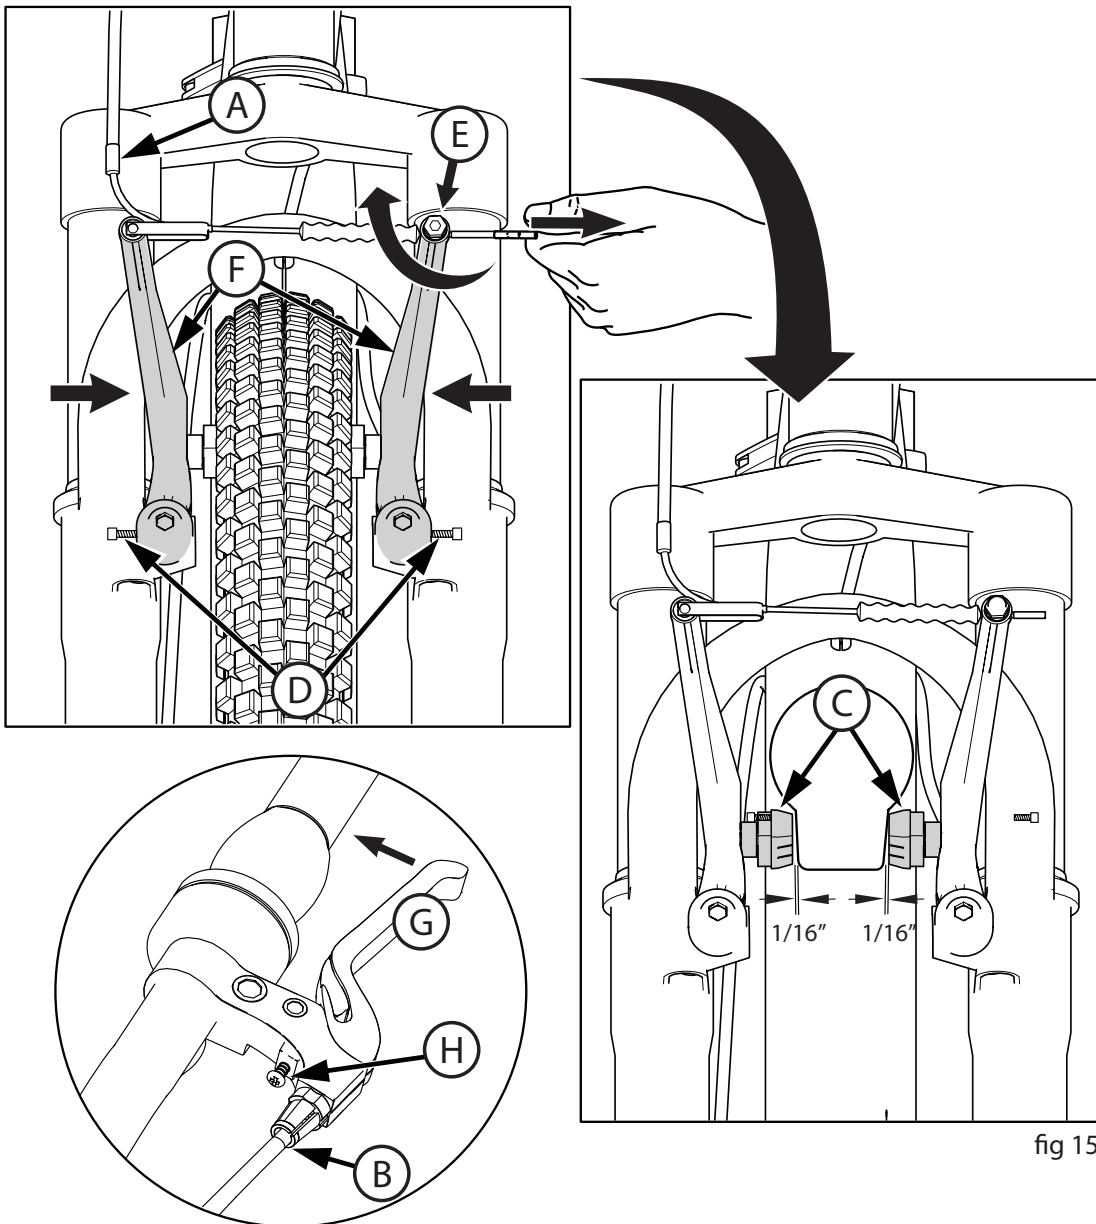

fig 15
8. Repeat these steps until the brake shoes are 1/16 inch from the rim and the Brake Lever (G) does not go all the way to the grip when squeezed (**fig 15**).
### Test the tightness of the cable clamp (**fig 15**):